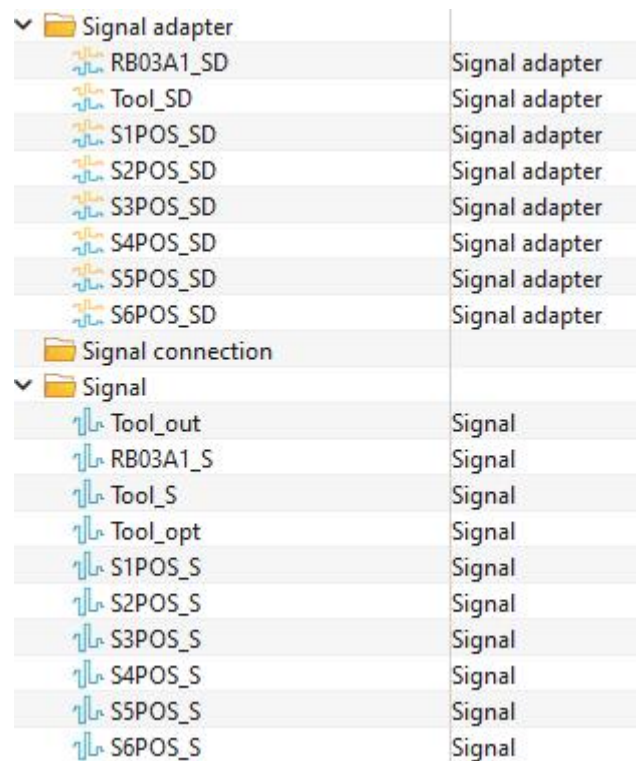

Figure 12-9: Signal adapter completed
- The final result should look similar to .(Figure 12-9)